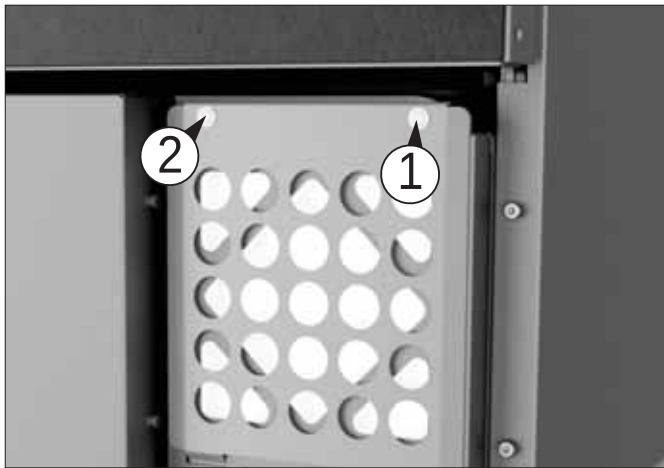

Fig. 28
- 2) Unscrew the screws (1 and 2 Fig. 28) using a Torx screwdriver T20.